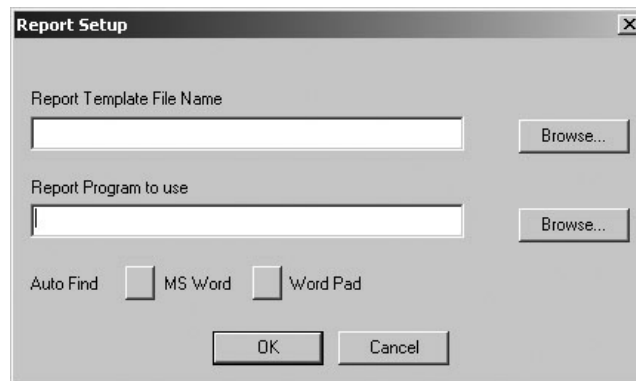

Figure 68 Report Setup Dialog
1. Right-click on the *Monitor* screen and select **Report Setup** and Figure 68 appears.